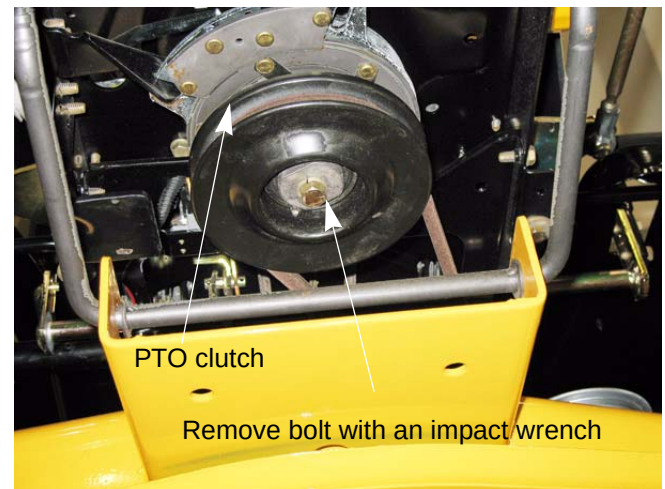

Figure 5.2
4. Unbolt the electric PTO using an impact wrench and a 5/8" socket. See Figure 5.2.